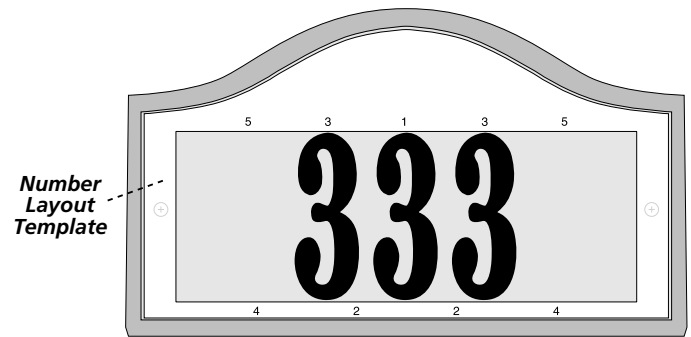

FIGURE 1
1. Lay the plaque on a flat surface, face side up. Place the number layout template on the plaque face. This template will help give you a rough spacing guide for your numbers (see Figure 1).